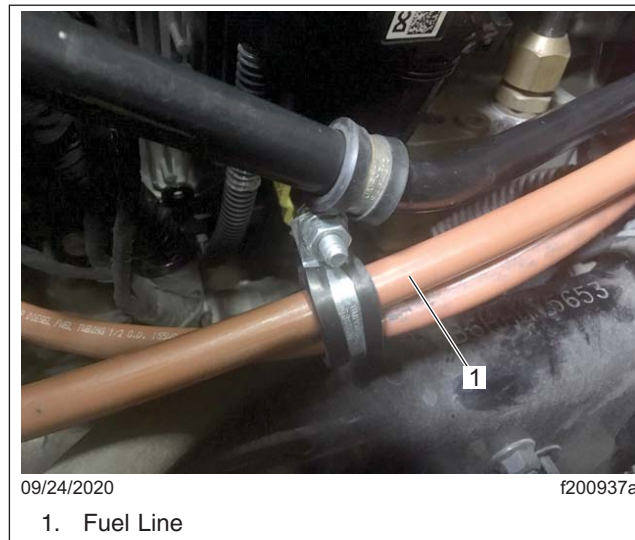

Fig. 29, Securing the Fuel Line
18. Install the fuel lines on the bracket at the rear of the engine using the original clamp and fasteners. Install the front fuel line clamp and the transmission dip stick tube clamp using the original clamps and fasteners. See Fig. 29.